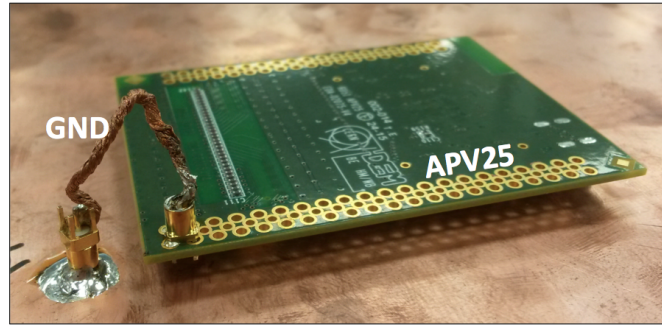

Figure 5.3: Close view of an APV plugged on the detector.
4. Connect the ground wire of each APV to the ground plugs already placed on the grounding plate (see Fig. 5.3).